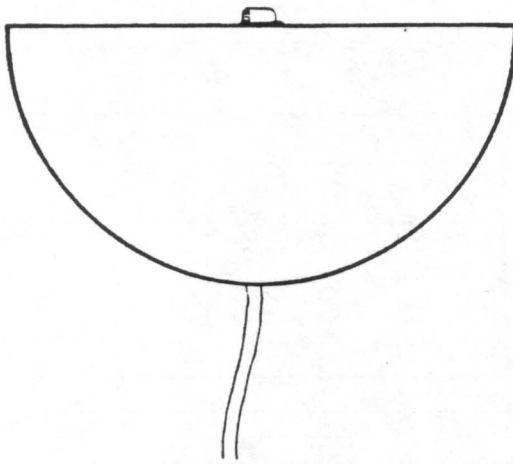
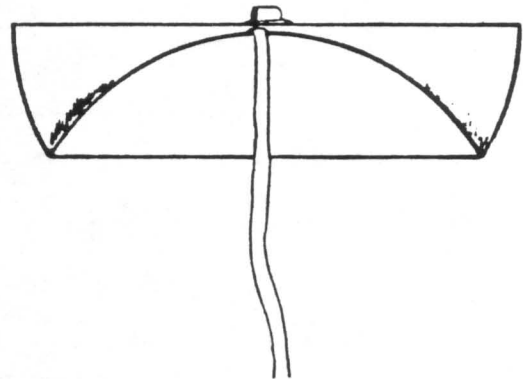

FIG. 14
FIG. 15
15) Lay the pilot chute out flat with the mesh side up, and fold the pilot chute in half over the bridle (FIG. 14). Now fold the curved side up to a point just under the handle (FIG. 15).